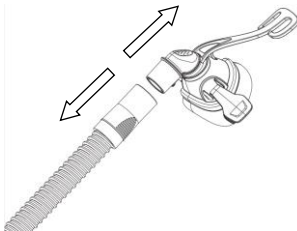

Fig. 18-6
- (3) Hold both the cuff of the air tubing and the swivel of the mask, then gently pull apart as shown in Fig. 18-6.